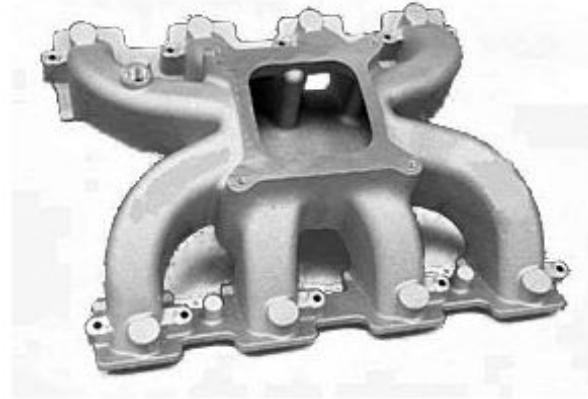

Figure 3-9 – Intake manifold.
- The intake manifold can be made of cast iron, aluminum, or plastic. On a gasoline engine it carries the air-fuel mixture from the carburetor and distributes it to the cylinders. On a diesel engine, the manifold carries only air into the cylinders. The gasoline engine intake manifold (*Figure 3-9*), is designed with the following functions in mind: Deliver the air-fuel mixture to the cylinders in equal quantities and proportions. This is important for smooth engine performance. The lengths of the passages should be as equal as possible to distribute the air-fuel mixture equally.